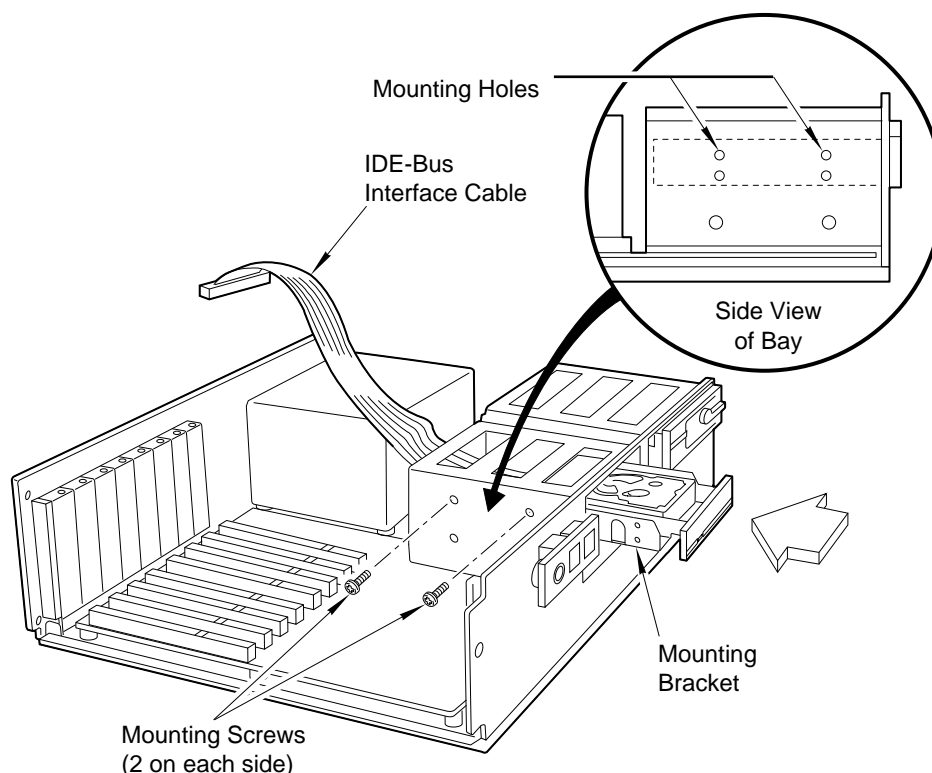

Figure 3-11 *Completing the Drive Installation*
3. Secure the drive to the system chassis by using the mounting screws, as shown in Figure 3-11.